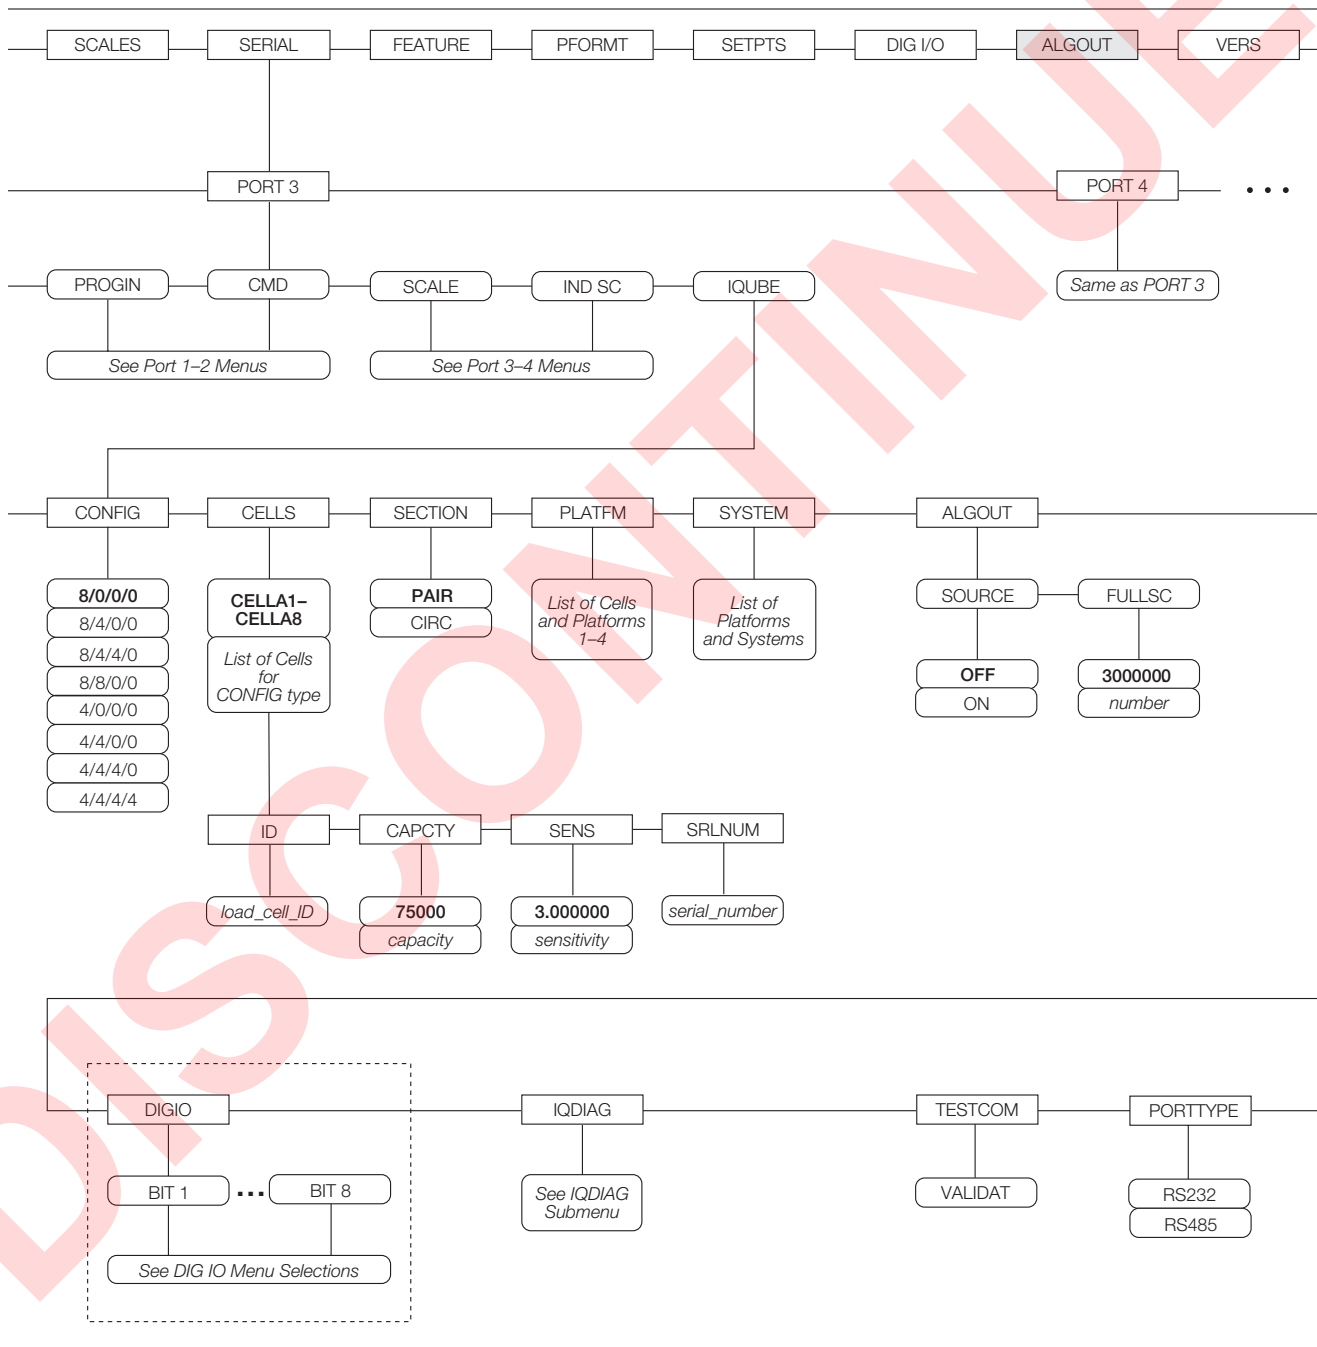

Figure 3-2. SERIAL Menu, iQUBE Submenu
1. Use the SERIAL menu to set up the following parameters. See Figure 3-2 on page 22 for a diagram of this portion of the 920i SERIAL menu. See also Table 3-1 on page 23.